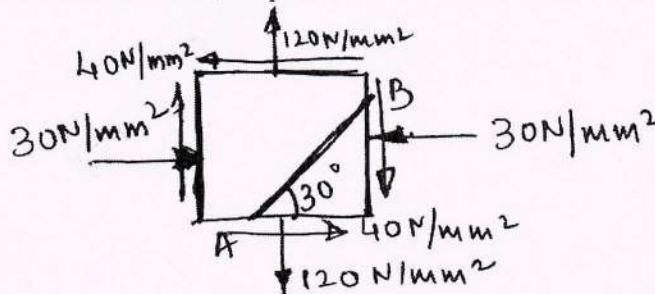

Fig.Q3(a)
- 3 a. At a certain point in a strained material the stress condition shown in Fig.Q3(a) exists. Find: